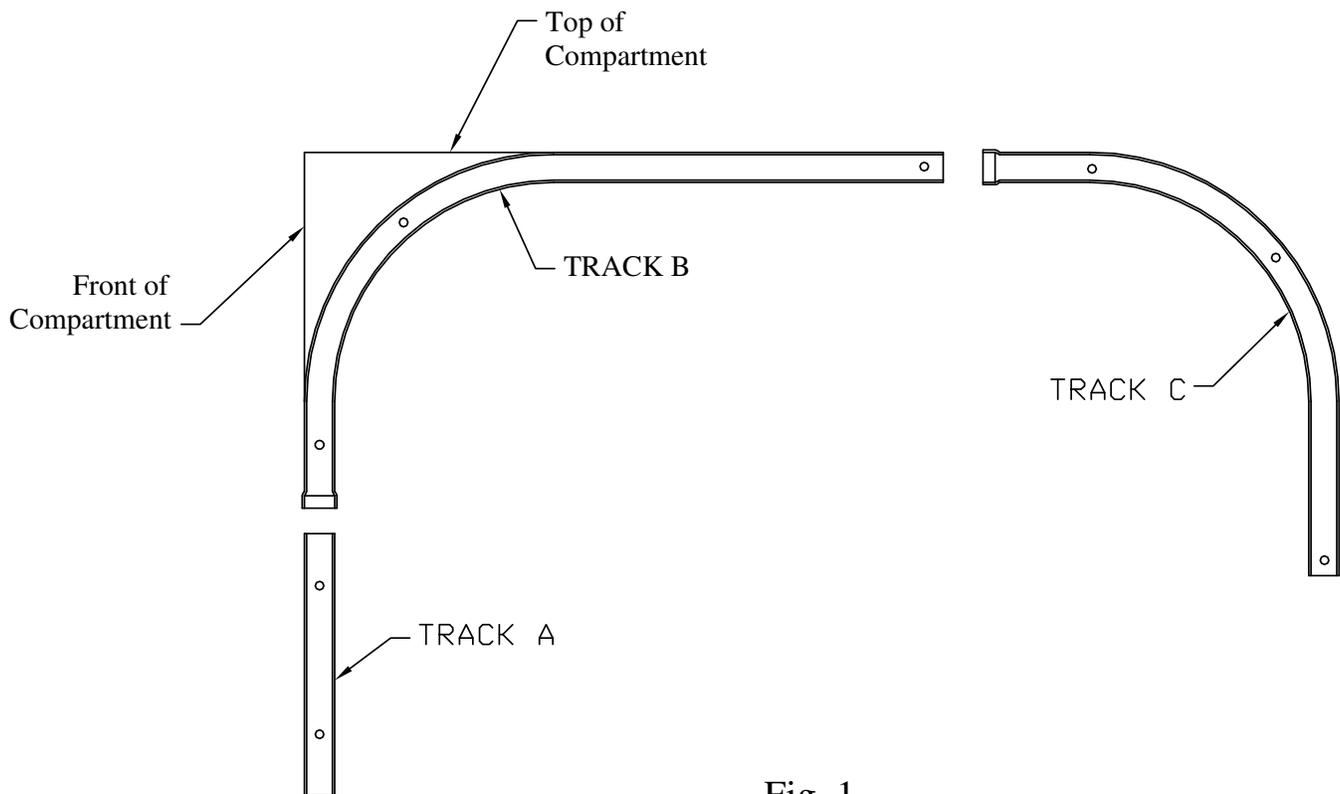

Fig. 1
- a) Place the straight section of "B" in the flange on the "C" track pieces. They will be labeled track "B" and "C" as shown in Fig. 1.